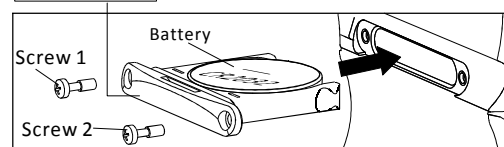

Fig 2-2
- Battery installation (Fig 2-2):